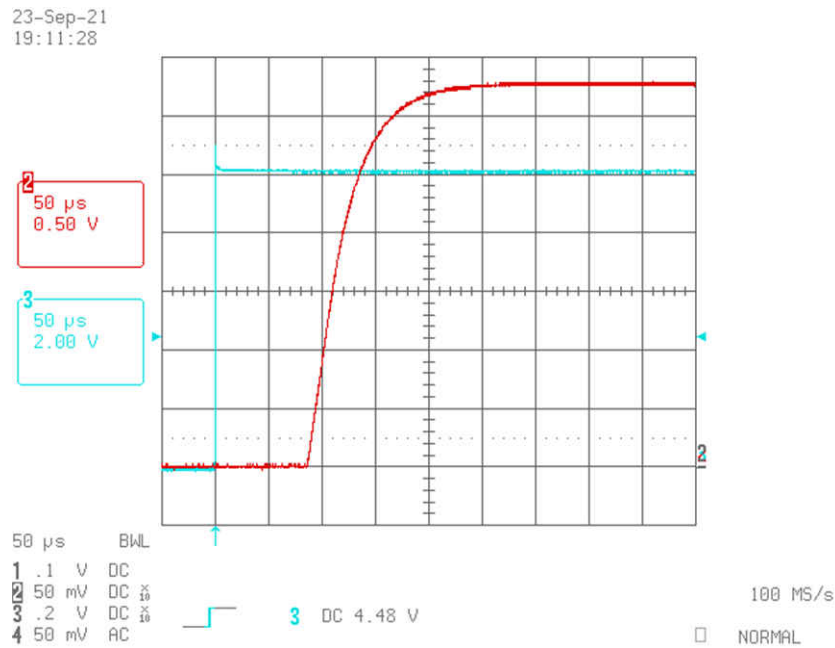

Figure 3-1. TPS7A21EVM-059 Turn On
Alternatively, by connecting an external function generator to TP1 (EN) and a nearby GND post (J6), the user can enable or disable the TPS7A21 LDO after VIN is applied. Figure 3-1 shows the result of the TPS7A21EVM-059 during turn on. The blue trace is the enable voltage, and the red trace is the output voltage.